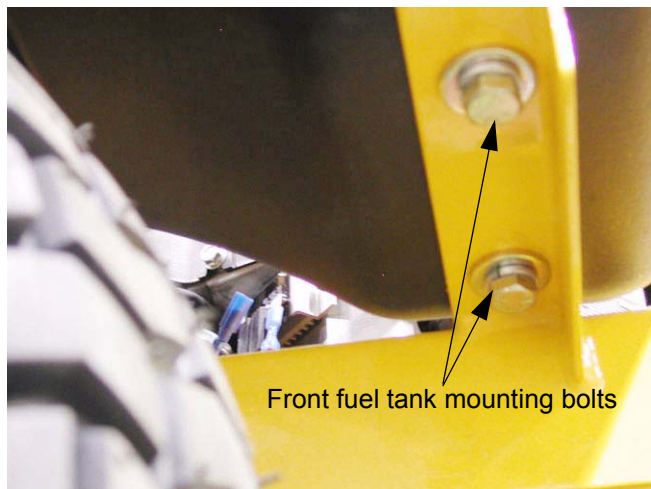

Figure 11.22
11.22. Remove the bolts that hold the front of the fuel tank and the utility bin to the front tank mounting bracket using a 9/16" wrench. See Figure 11.22.